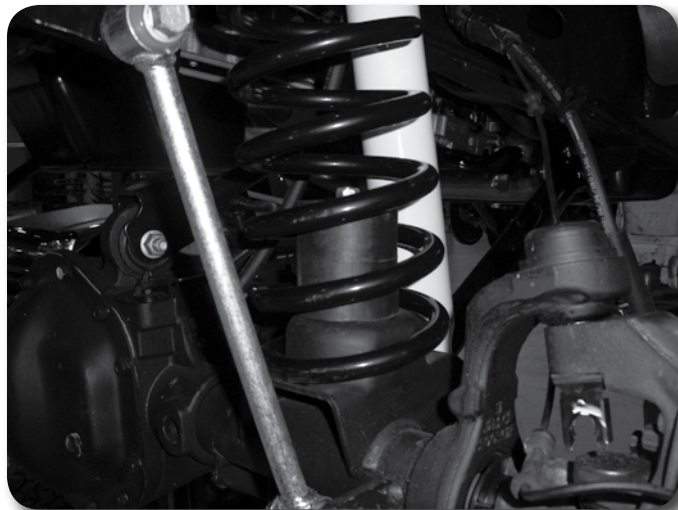

Figure 12
30. With the front coils in place, fasten the bump stop extensions to the axle using 3/8" x 3-1/2" bolts and washers into the tapped holes made earlier. **Figure 12** Put Loctite on the bolt threads and tighten to approximately 25 ft-lbs.